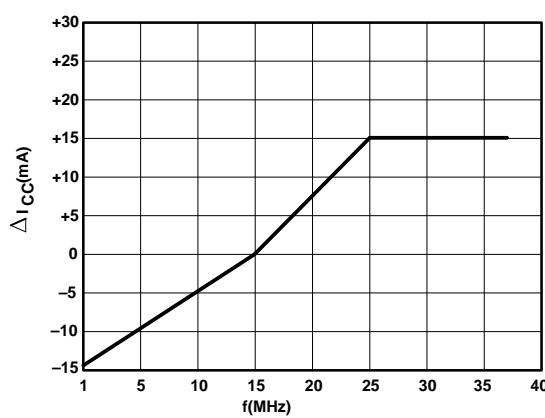

Figure 1. ΔI_{CC} vs Frequency (Worst Case) (Referenced from 15MHz)
6. Refer to Figure 1, ΔI_{CC} vs Frequency (worst case). (Referenced from 15MHz)